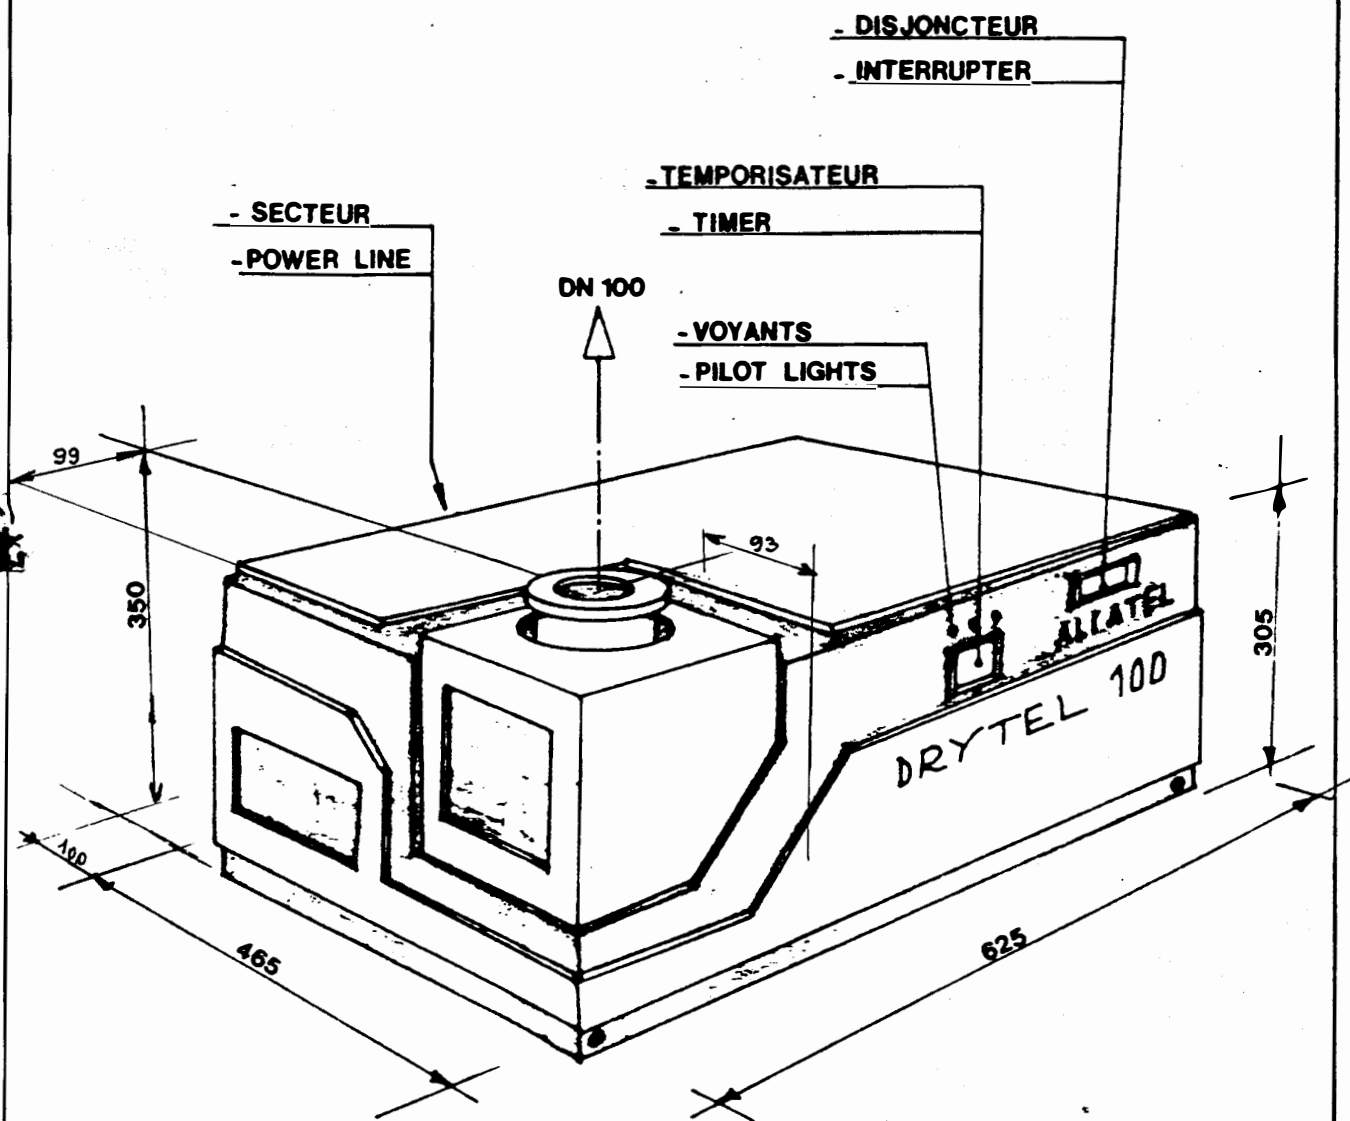

FIGURE 3
- Figure 3 - DRYTEL 100 - Encombres
- Figure 3 - Drytel 100 : dimensions